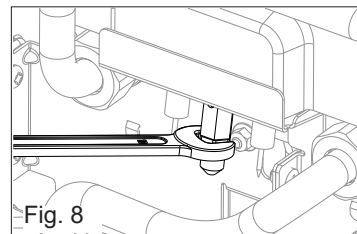

Fig. 8
- Remove the pilot injector (fig. 8)